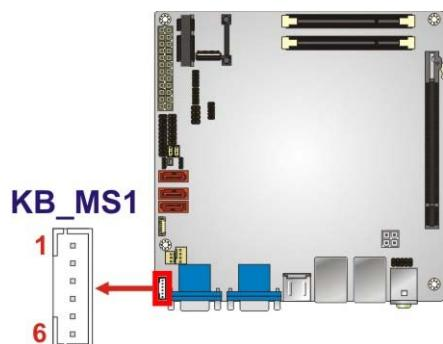

Figure 3-15: Keyboard/Mouse Connector Location
**CN Location:** See Figure 3-15